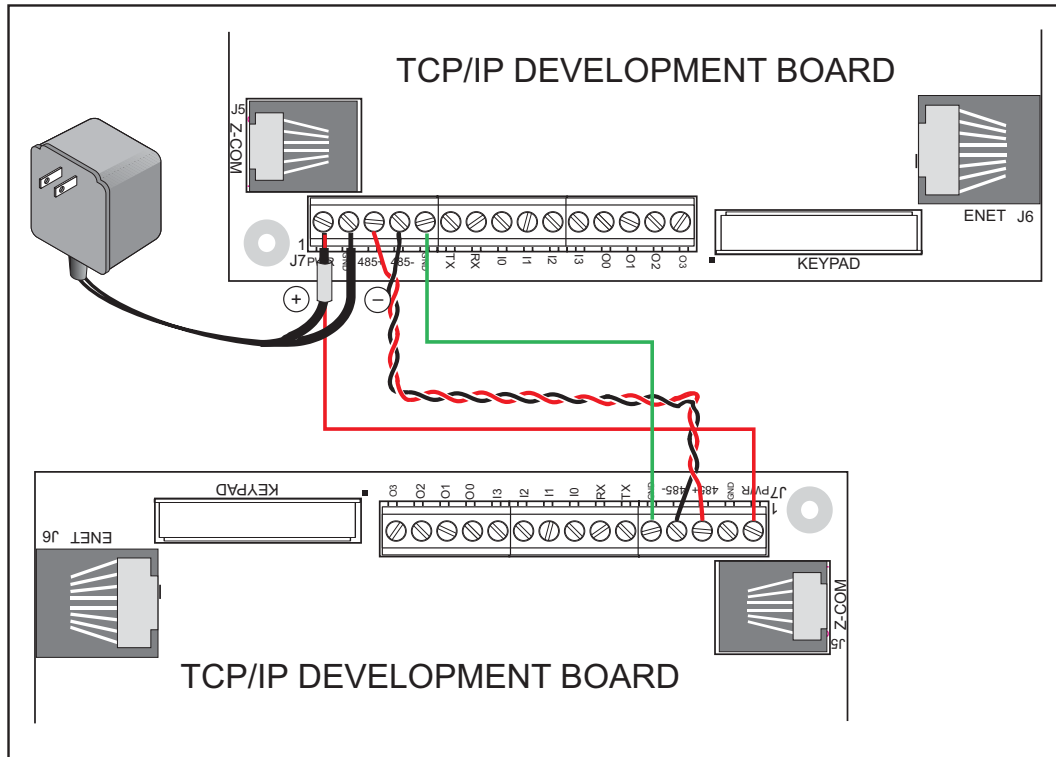

Figure 9. TCP/IP Development Board Setup for RS-485 Serial Communication Demonstration
1. Connect 485+ to 485+, 485- to 485-, and GND to GND as shown in Figure 9 below. If you do not have a separate wall transformer for the other board, also connect PWR to PWR as shown in Figure 9.